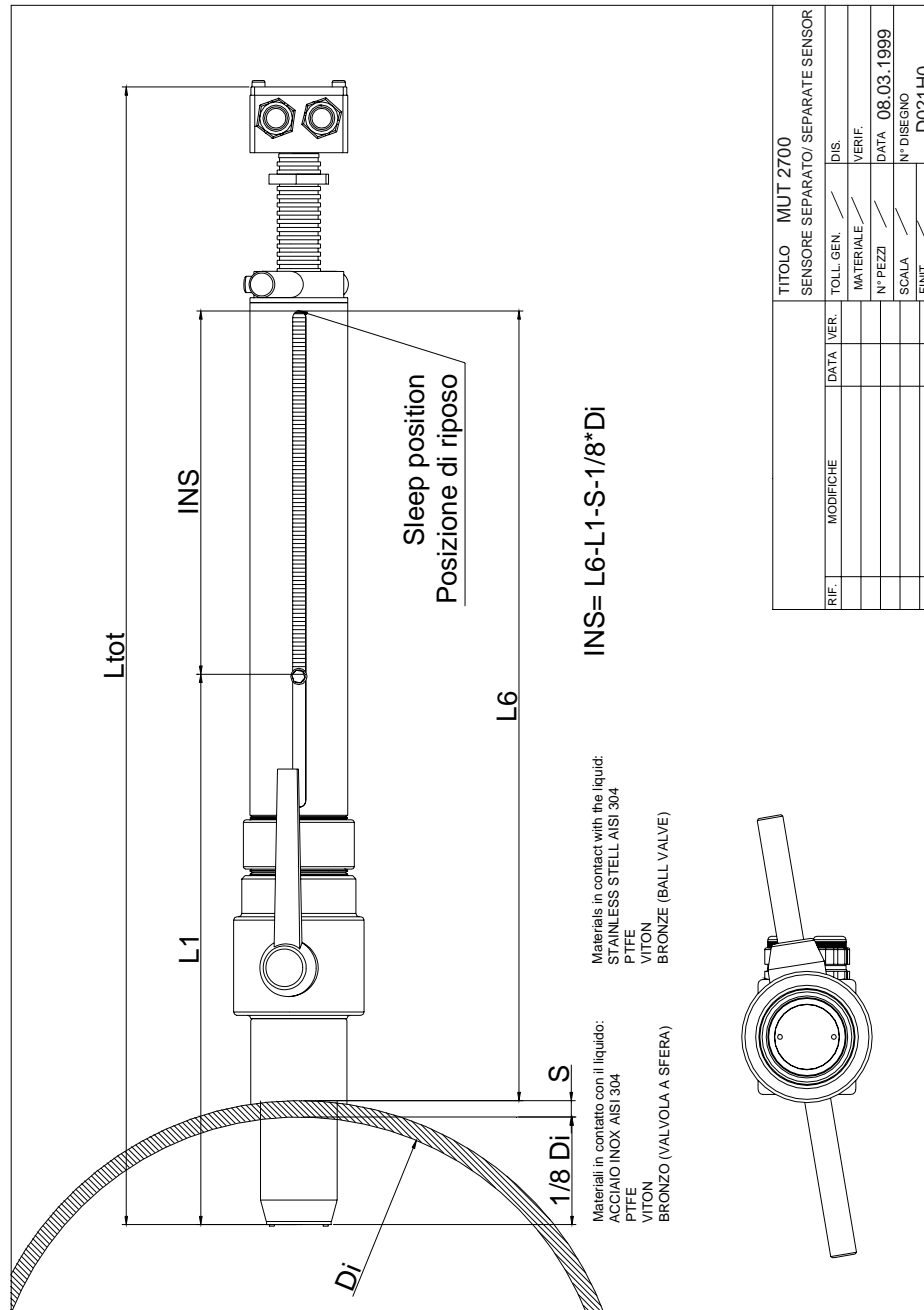

Fig. 10.2
10.4 - MUT 2700 THE PENETRATION OF THE SENSOR INSIDE THE PIPE (Fig. 10.2)
L6 = the value obtained directly in the plant after installing the sensor (see Fig. 10.2)
e) respect L10 quote for coupling length. On Fig. 10.2 is explained the meaning and value of L10.
L_c = fixing device length (Fig.10.2)